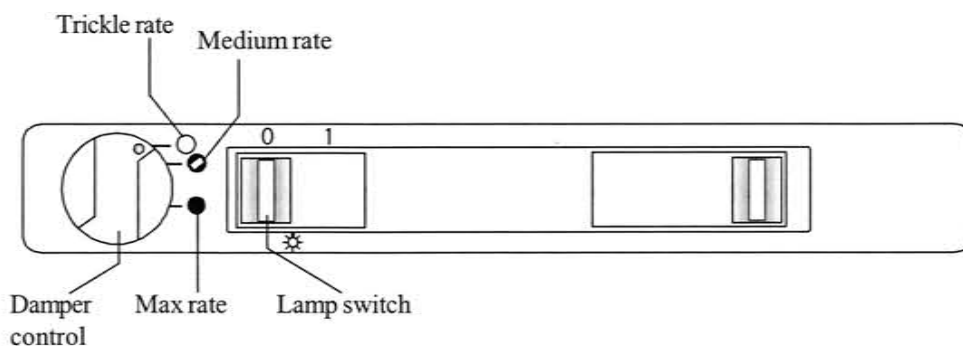

Fig. 4
- 3.4 Check that the damper control on the cooker canopy (fig. 4) operates the damper and set to the trickle rate.
- 3.6 Set the lamp switch (☼) to '1' (fig. 4) and ensure that both lamps illuminate.
- 3.7 Set the lamp switch (☼) to '0' (fig. 4) and ensure that both lamps extinguish.